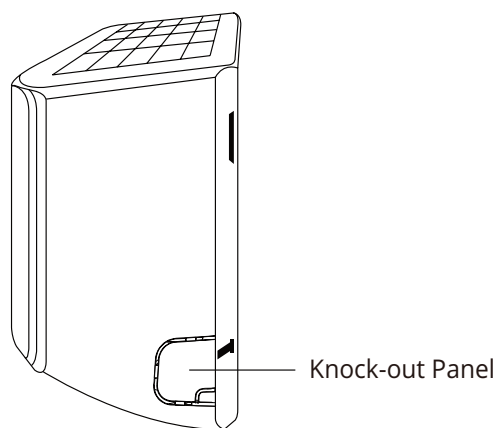

Fig 3.3
2. If the wall hole is behind the unit, keep the knock-out panel in place. If the wall hole is to the side of the indoor unit, remove the plastic knock-out panel from that side of the unit. (See **Fig. 3.3**). This will create a slot through which your piping can exit the unit. Use needle nose pliers if the plastic panel is too difficult to remove by hand.